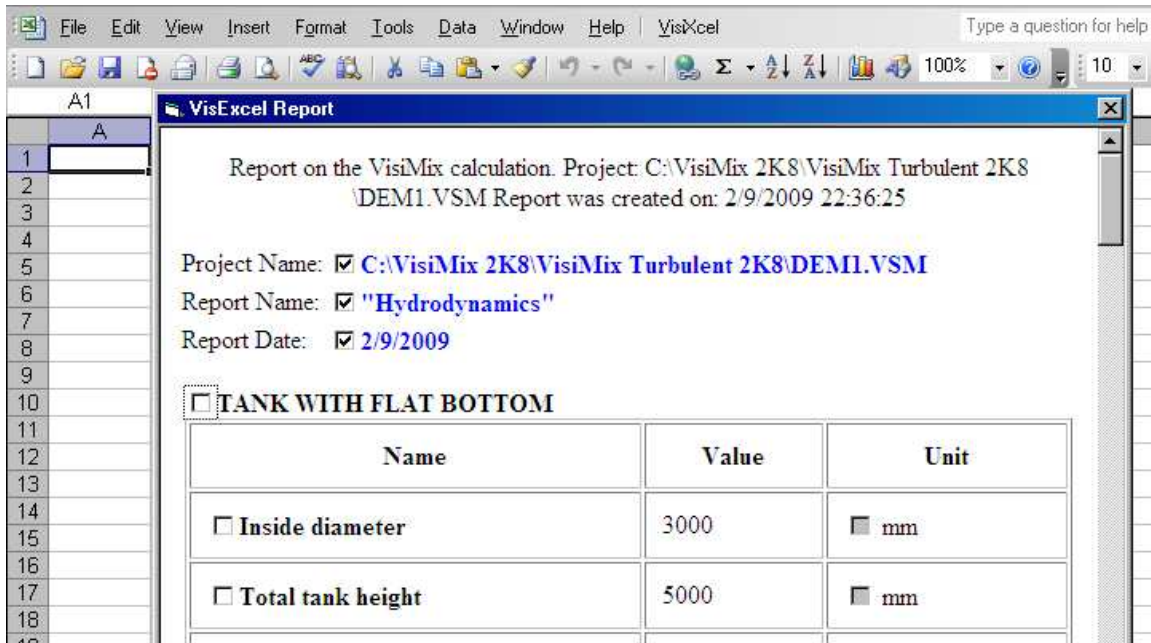
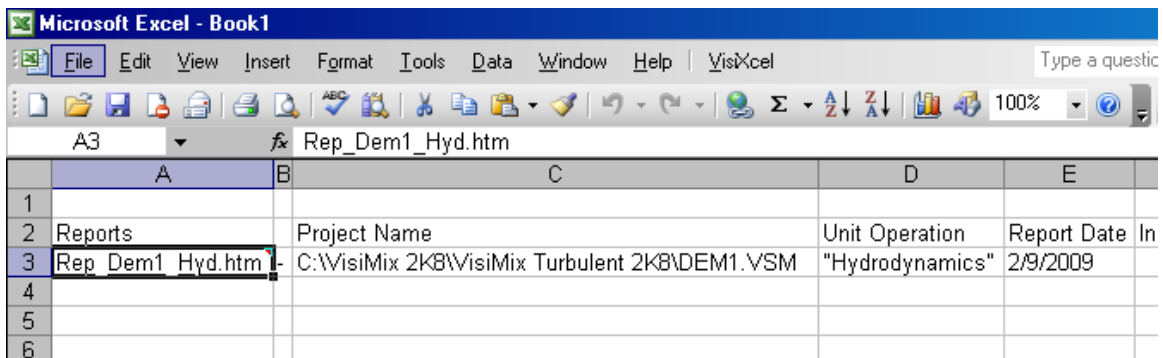
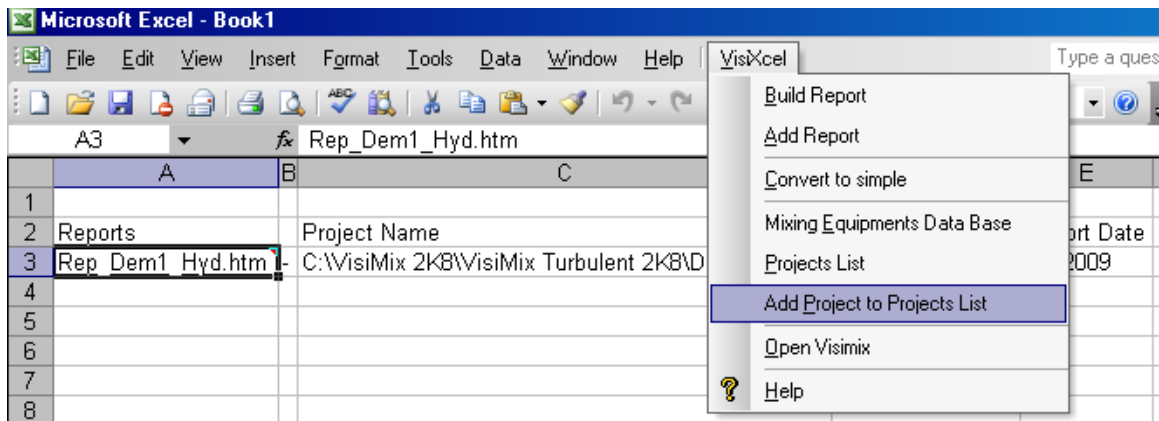

Figure 1.6.
Figure 1.7.
Figure 1.8.
- 1.3. Click **Submit Report** button in the lower bar of the Report window (Figure 1.6). Names of the **Report** and **Project** will be transferred to the **Excel** file (Figure 1.7).
- 1.4. Click on the field of created project line (Figure 1.7). Open VisiXcel menu and select **Add project to Projects list** (Figure 1.8).
3.3. Move marker to the created project line (as in Figure 1.7) and include the new project in the Project List (Figure 3.4, operations corresponding to par. 1.4-1.6).